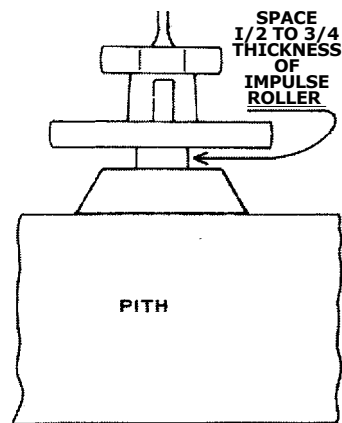

Fig. 15-12
2. Test roller in position on roller post, figure 15-12. Roller should slip over post until the space between the hub and the impulse roller is approximately 1/4 to 1/2 the thickness of the roller table.